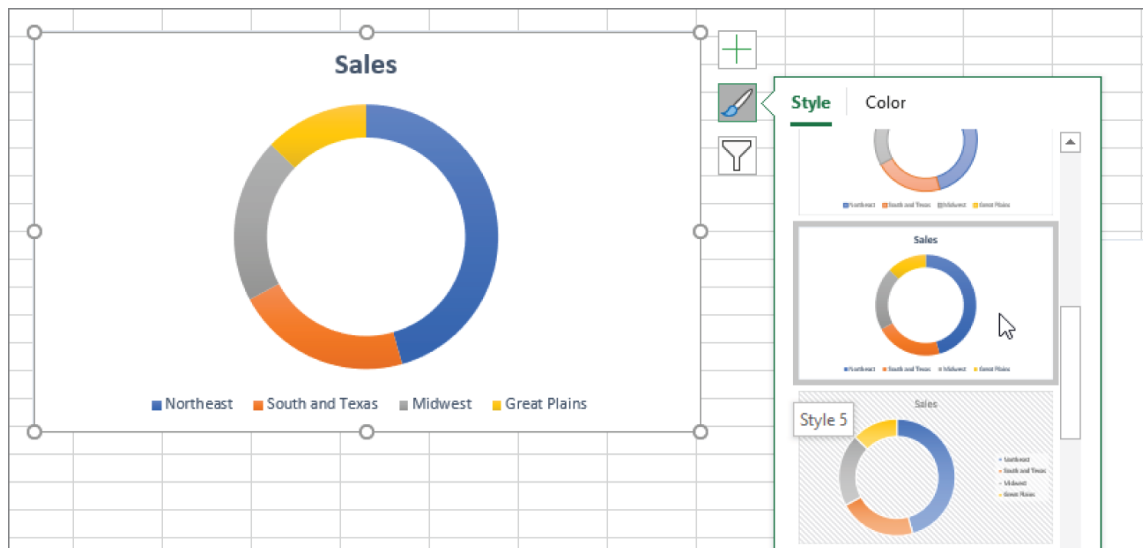

Figure 8.6: The on-chart Chart Styles button
5. From the on-chart Chart Styles button, choose a chart style. Style 5 is used in this example and is shown in Figure 8.6.